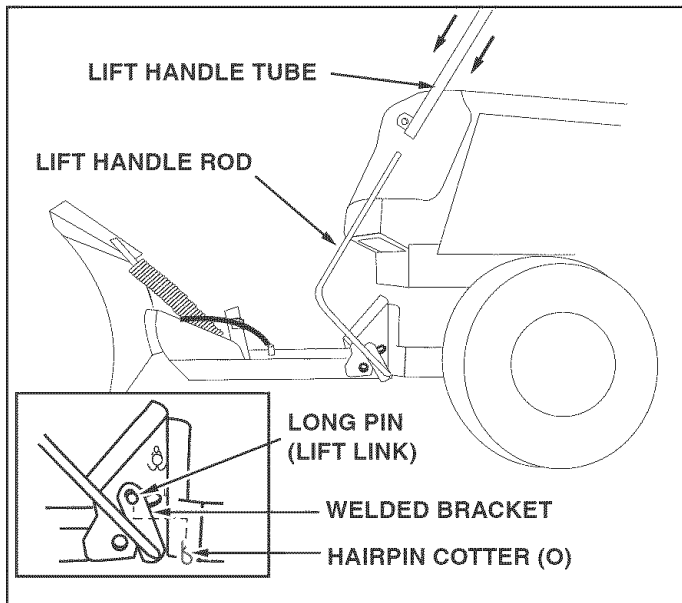

FIGURE 19 (Left Hand Side View)
STEP 19: (SEE FIGURE 19)
- From the left side, insert the welded end of the lift handle rod through the hole in the end of the channel assembly. Next, insert the lift link pin through the hole in the bracket that is welded to the lift handle rod. (The lift link is pre-assembled to the pivot support bracket). Secure the bracket with a hairpin cotter (O) inserted up through the lift link pin.
- Remove the hairpin cotter which fastens the lift handle rod to the lift link pin. See figure 19, page 10.